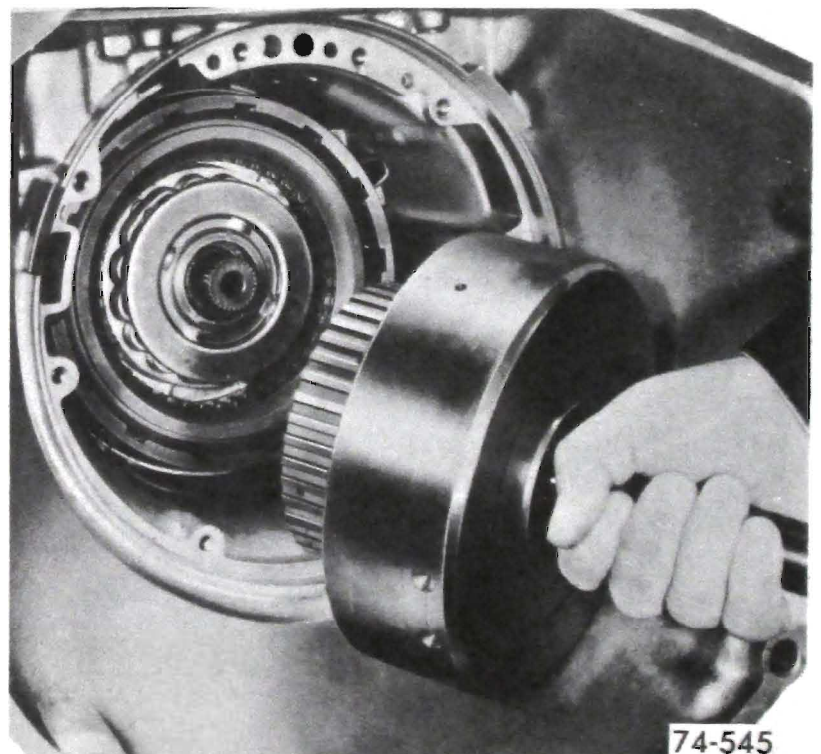

Figure 76-87
5. Remove forward clutch and turbine shaft assembly from transmission. See Figure 76-87.